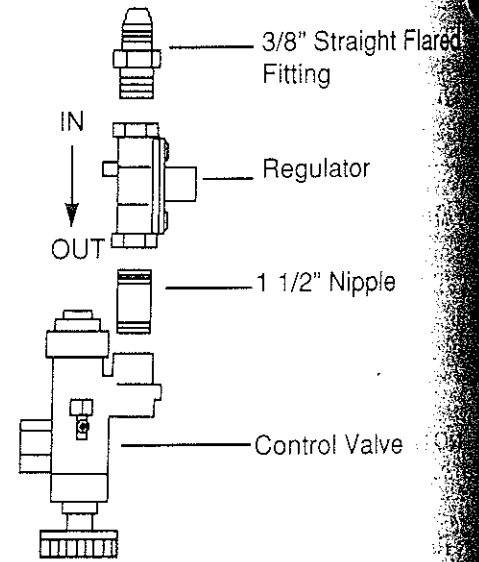

Figure 3
- Remove valve and regulator assembly from the parts bag (remember these parts are only hand tightened, pipe dope must be added and the fittings must be tightened). Remove the 1 1/2 inch Nipple from the back of the valve and regulator and apply pipe dope to it. Screw the nipple back into the valve and regulator, make sure that the arrow on the underneath side of the regulator is pointing toward the control valve. Attach the 3/8 inch straight flared fitting to the "IN" port of the regulator using pipe dope. (See Figure 3.)